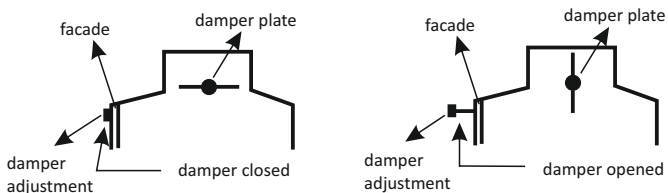

Fig. 5. The example of the damper adjustment
- the cover in the façade of the ash tray, by adjusting the air supply to the bottom of the furnace (see fig. 5).